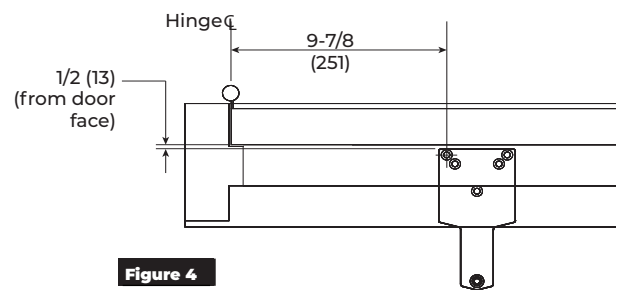

Figure 4
1. Using the template, mark location of the first hole. (Figure 4)